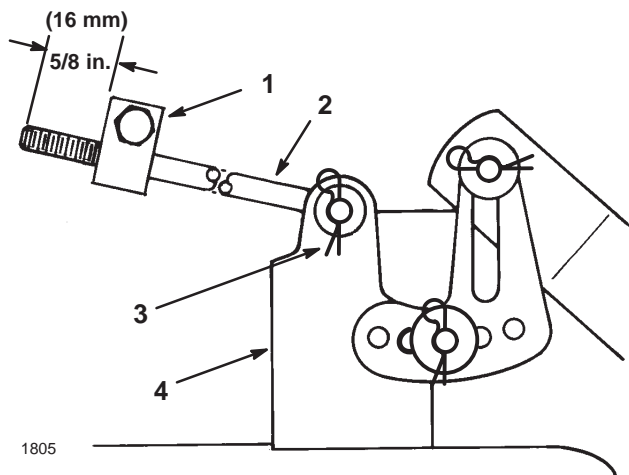

Figure 13
- Measure the length of the rod extending out of the front of the adjusting block on the sides of the chassis (Fig. 13). If the rod length is not $5/8$ in. (16 mm), remove the hairpin cotter and washer from the end of the rod (Fig. 13) and turn the rod until the $5/8$ in. (16 mm) dimension is obtained. Then install the end of the rod into the hole in the mower mount and secure it in place with the washer and hairpin cotter. Repeat this procedure on the opposite side of the mower.